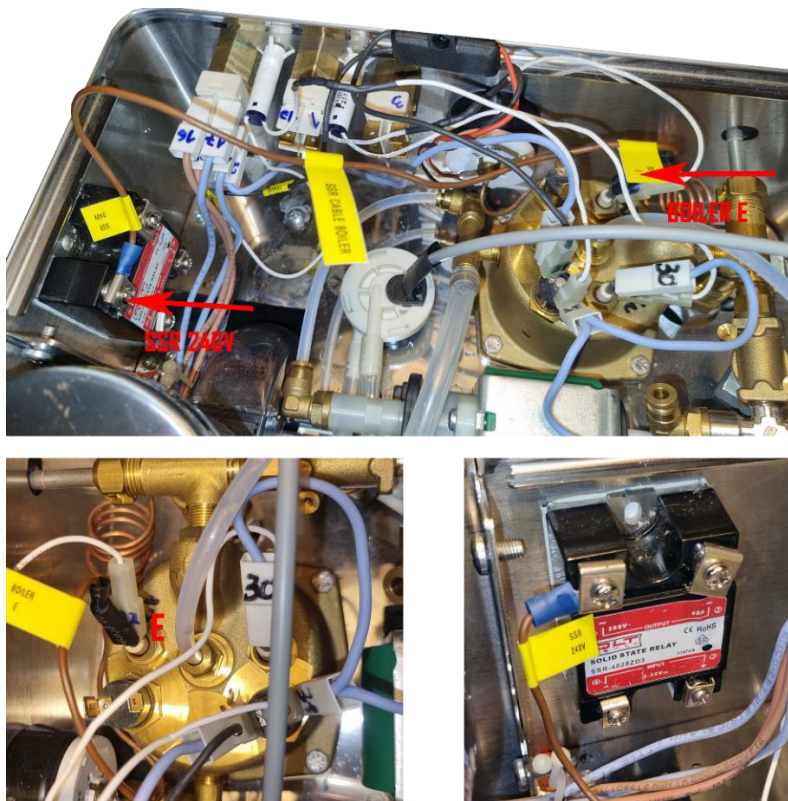

Fig. 7.1
- You have left 1 cable (SSR CABLE BOILER). You need to connect it between Solid State relay (240V connection → upper-left side) and the Boiler heat element left unconnected (boiler position E). (fig. 7.1)